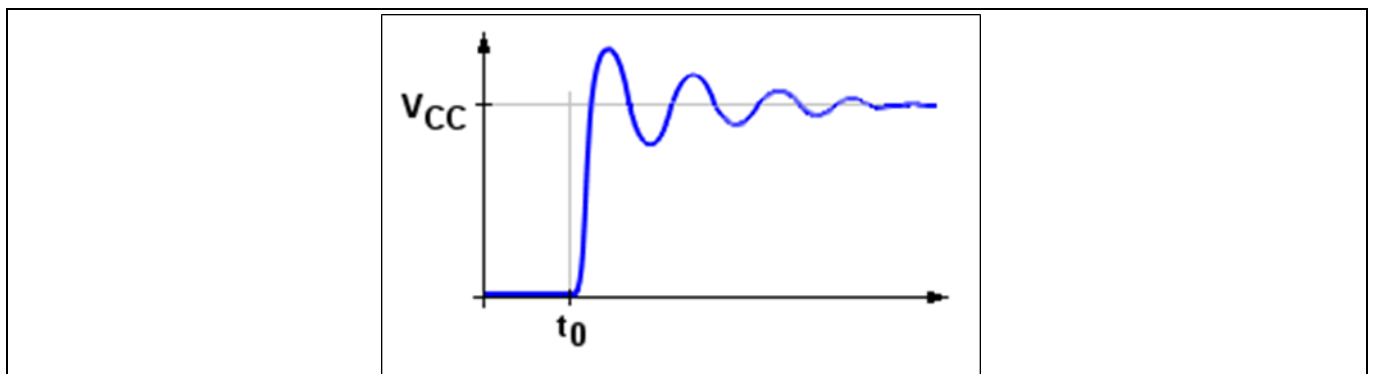

Figure 9 Signal rise after closing the switch at Point (B)
However, at the port pin Pxy on Point (B), as shown Figure 9, voltage can be measured.